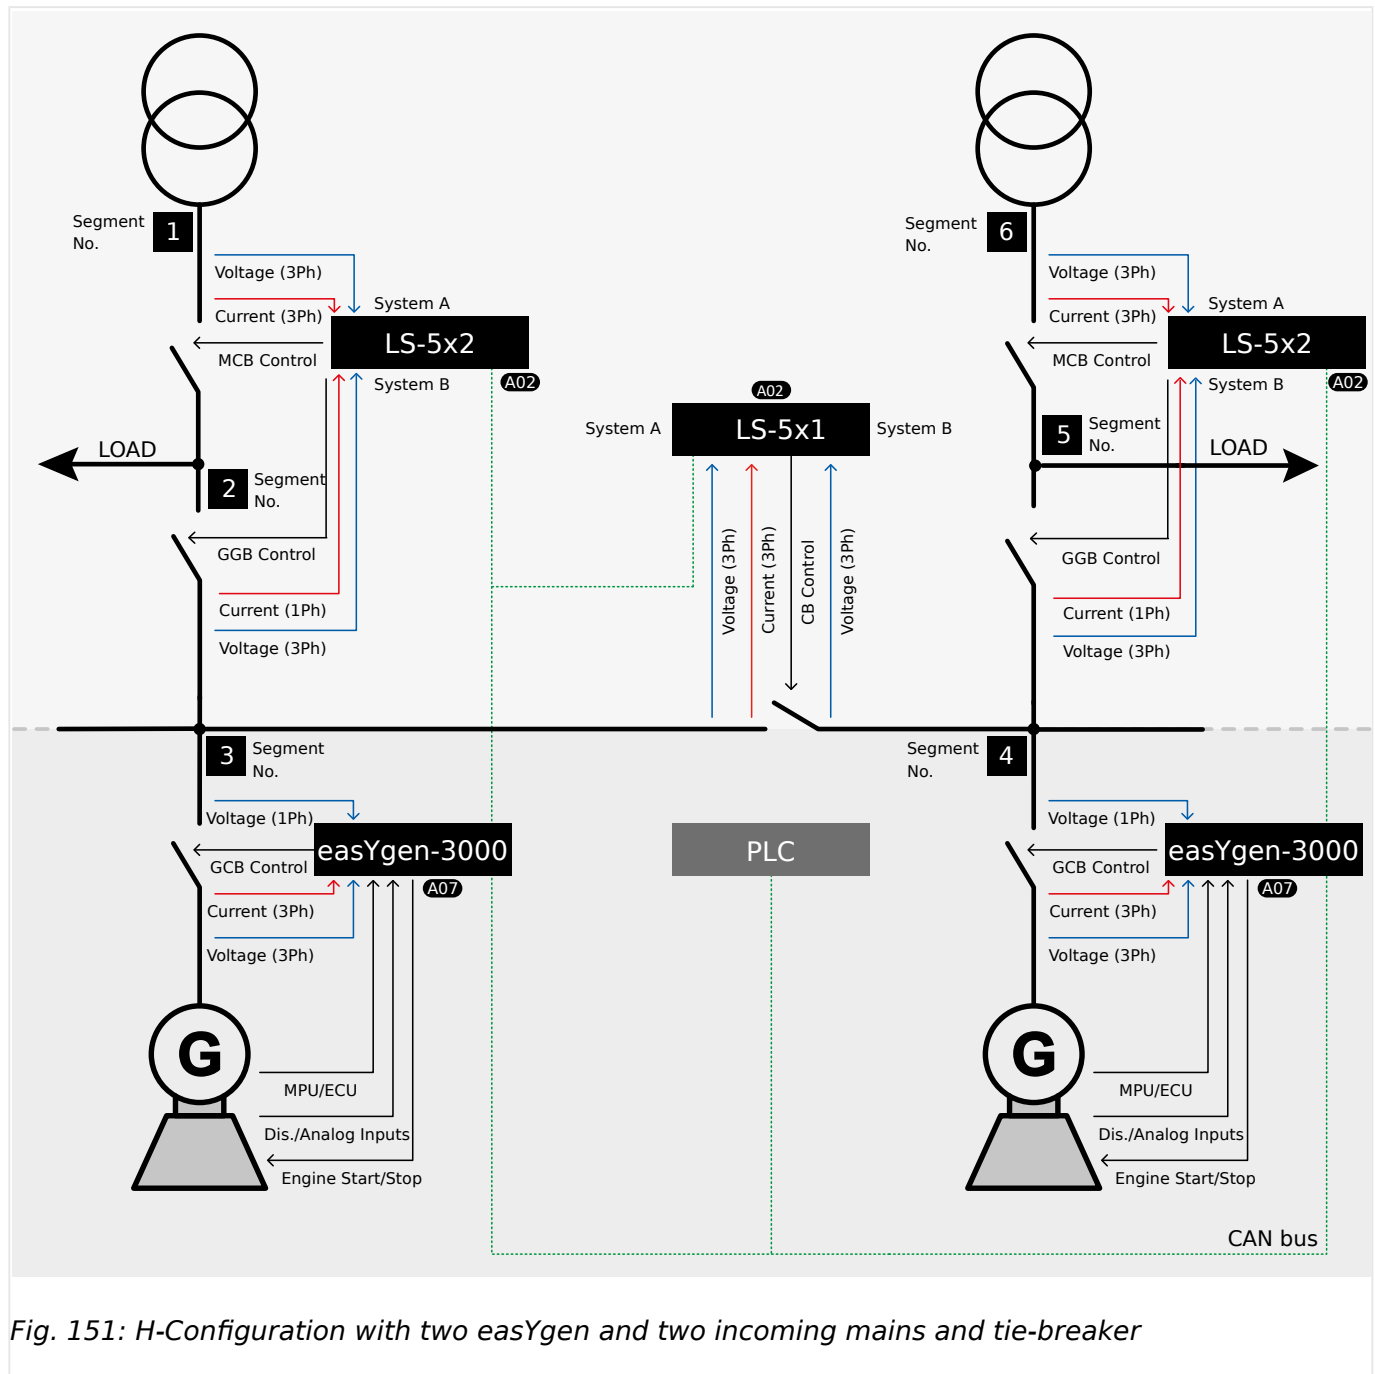

Fig. 151: H-Configuration with two easYgen and two incoming mains and tie-breaker
1. ▷ The system A voltage and current measurement is connected to the generator busbar segment (↗ Fig. 151 / Segment No. 3).
2. ▷ The system B voltage measurement is connected to the generator busbar segment (↗ Fig. 151 / Segment No. 4).